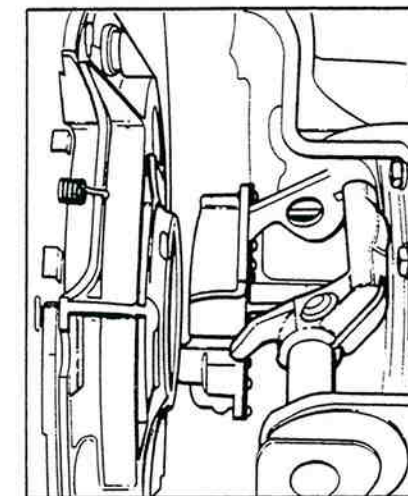

Figure 5-34. Check Release Bearing Assembly.
6. Observing through handhole opening in bell housing, make certain release bearing assembly is vertical with flat section on top and clutch release yoke fingers tipped up and entered to pass over release pads of release bearing assembly (figure 5-34).